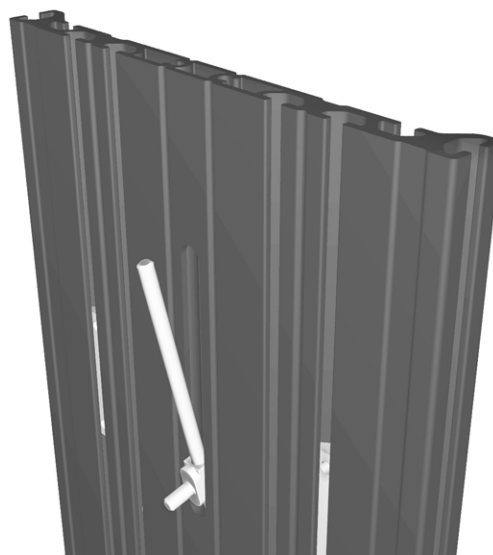

Figure 199. Screw the adjustment bar down far enough to be able to prise it up out of the groove on the backrest profile.
9. Screw the adjustment bar down far enough to be able to prise it up out of the groove on the backrest profile. See fig. 199.